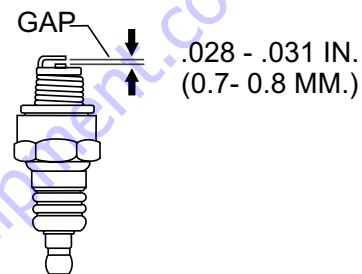

Figure 24. Spark Plug Gap
- Remove and clean spark plug (Figure 24) with a wire brush if it is to be reused. Discard spark plug if the insulator is cracked or chipped.